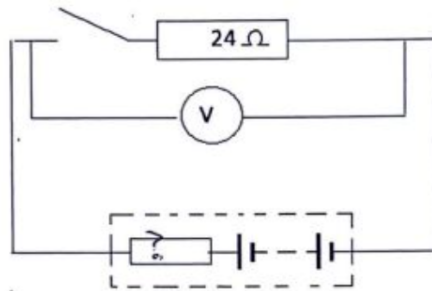

FIG Q9
9. The circuit in FIG Q9 has a voltmeter as shown. When the switch is open the reading on the voltmeter is 30 V, when the switch is closed the voltage drops to 26.67 V.
- (a) Explain the reason for the change in the voltmeter readings. (4)